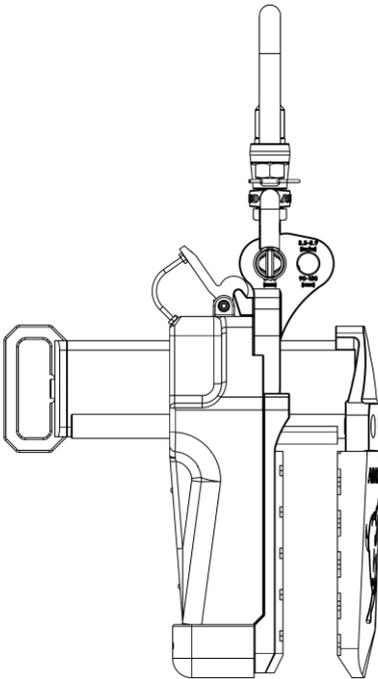

Figure 1.1
- Hook the Swivel Shackle at position 1 when the slab thickness is from $\frac{3}{16}$ " (5mm) to $3\frac{9}{16}$ " (90mm) (Figure 1.1).